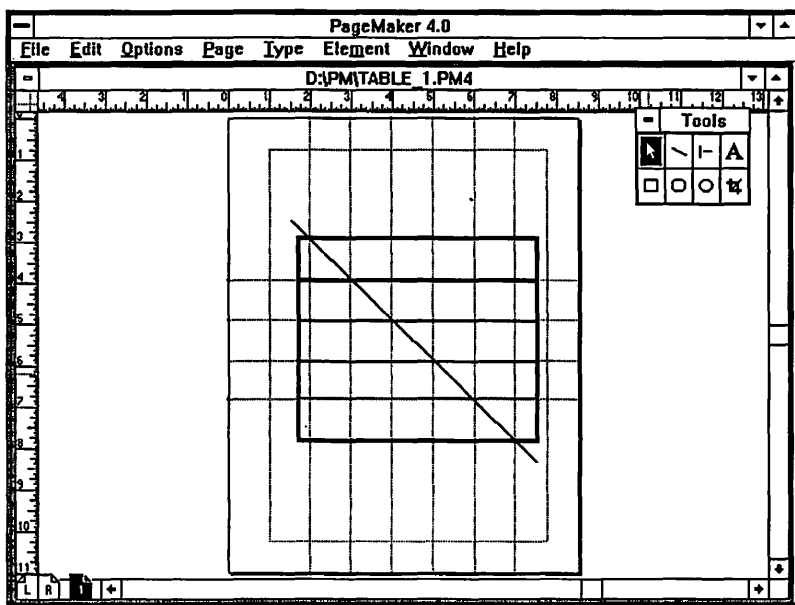

FIGURE 4-7 Drawing a diagonal line through evenly spaced vertical ruler guides makes it easy to divide an area into equal horizontal segments.
3. Place horizontal ruler guides at the points where the diagonal rule and the vertical ruler guides intersect (Figure 4-7). These will mark your five equal horizontal divisions.